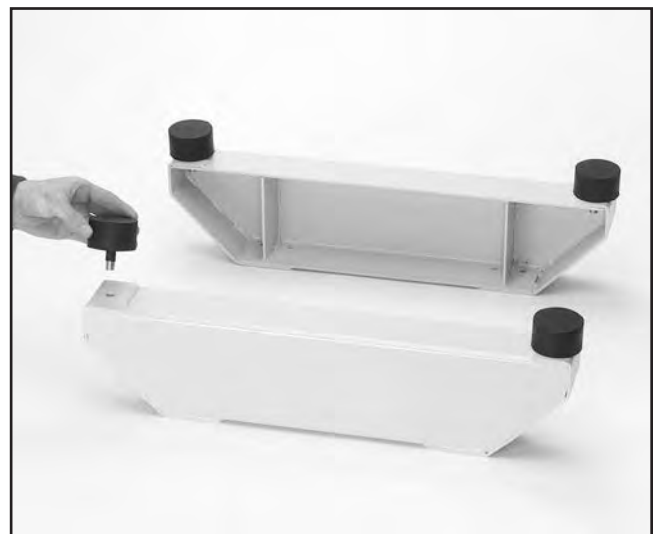

Figure 6. Attaching rubber feet.
1. Thread the end of the rubber feet into the threaded holes on the underside of the base supports as shown in **Figure 6**.